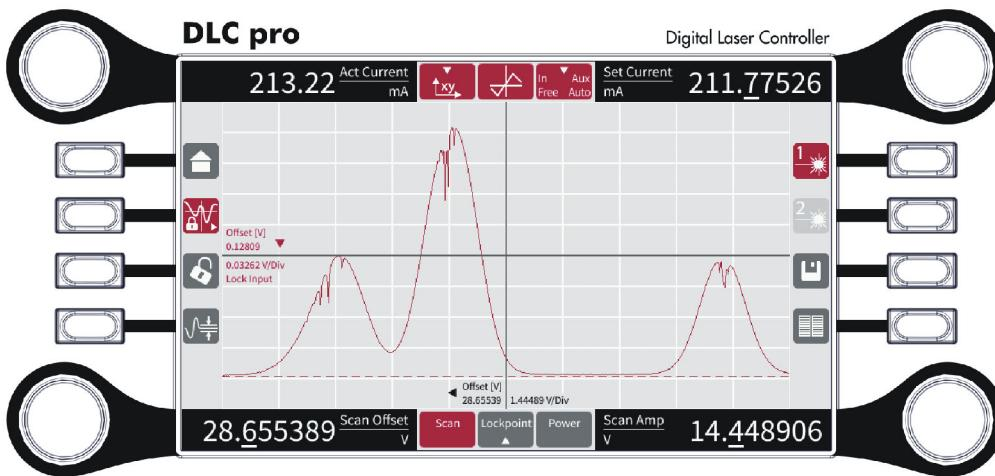

Figure 101 Absorption signal of a Doppler-free Rb spectroscopy
2. Adjust the spectroscopy signal by zooming and dragging the display graph on the touchscreen. The signal expected after the adjustment will look similar to the one shown in Figure 101.